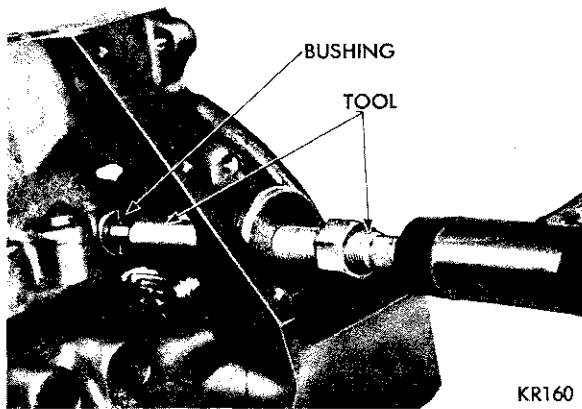

Fig. 32—Installing Distributor Drive Shaft Bushing Using Tool C-3053
- (1) Slide a new bushing over the burnishing end of Tool C-3053 and insert the tool bushing into the bore, as shown in Figure 32.
- (2) Drive the bushing and tool into position, using a soft hammer.
- (3) As the burnisher is pulled through the bushing by tightening the puller nut, the bushing is expanded tight in the block and burnished to the correct